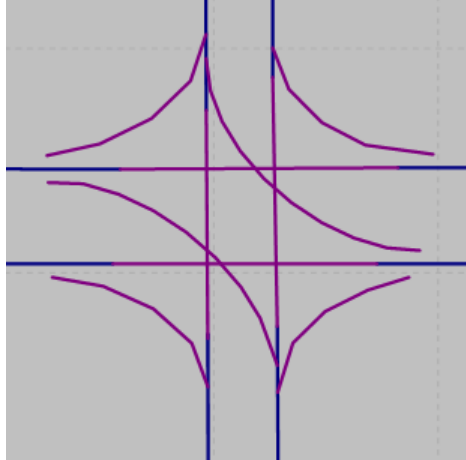

Figure 31: Buzz Blvd and Ramblin St. with through movement connectors
- step iv. In a manner similar to the previous Buzz Blvd. and Burdell Dr. example split all of the through *links* (EB, WB, NB, and SB) and use *connectors* for the through movements. Your intersection should be similar to *Figure 31* after this step.